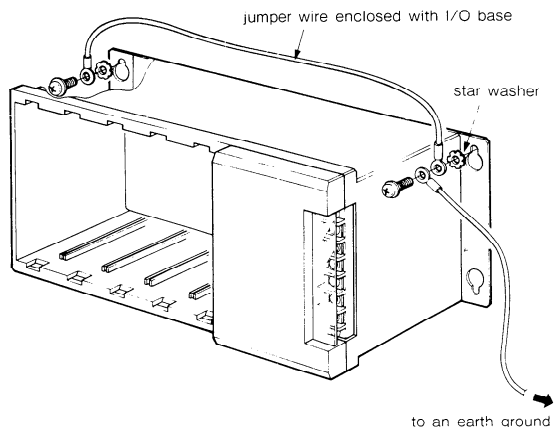

Figure 3.3 RECOMMENDED EXPANSION RACK GROUNDING
When inserting the 2 top bolts, attach the green jumper as shown in Figure 3.3. This jumper wire is packed with each rack and provides a method of grounding the rack when an earth ground is also connected to a mounting bracket.
18. Connect an earth ground wire to the rack mounting bracket as shown in Figure 3.3. (Typically this ground wire is the green wire from the ac power source.)